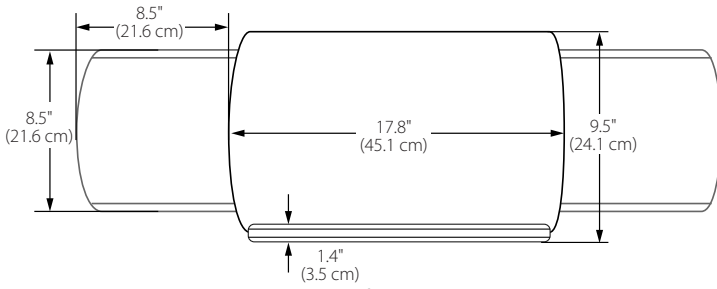

Figure 9
- Slide-out Keyboard Tray with Left/Right mouse, (**Figures 9 & 10**) or Ergonomic Keyboard Tray with Left/Right mouse, side-to-side, tilt, and height adjustment (**Figures 11-14**)